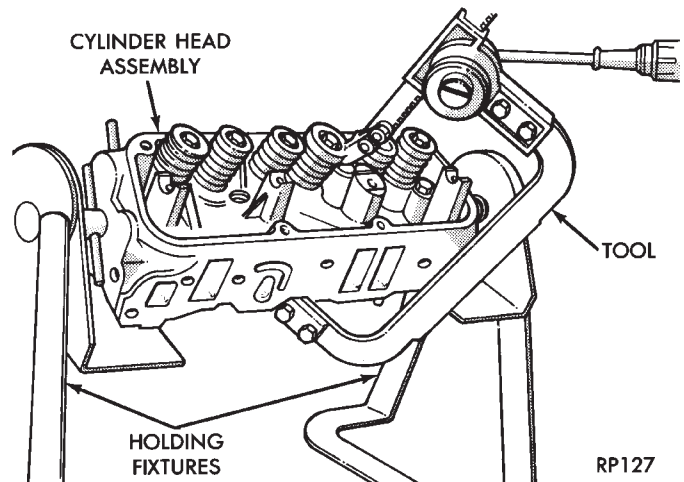

Fig. 38 Compress Valve Springs with Special Tool C-3422-B with Adapter 6412
(1) With cylinder head removed, compress valve springs using Valve Spring Compressor Tool C-3422-B with adapter 6412 as shown in (Fig. 38).
(2) Remove valve retaining locks, valve spring retainers, valve stem seals and valve springs.
(3) Before removing valves, **remove any burrs from valve stem lock grooves to prevent damage to the valve guides.** Identify valves to insure installation in original location.